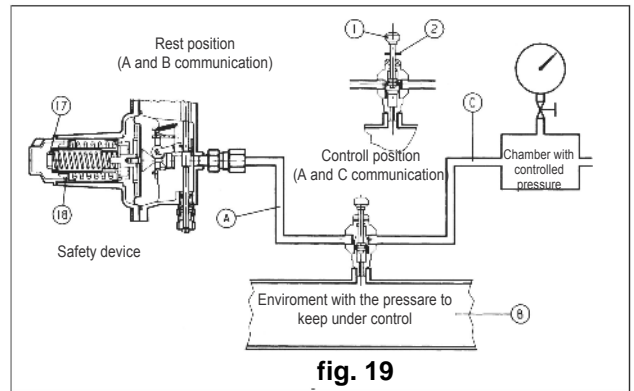

fig. 19
- A) For slam-shut connected to the downstream piping by a three-ways deviator "push" valve 11, (fig 19) proceed as follows:
- A) For slam-shuts connected to the downstream piping by a three-ways deviator "push valve 11, proceed as follows (fig. 19):